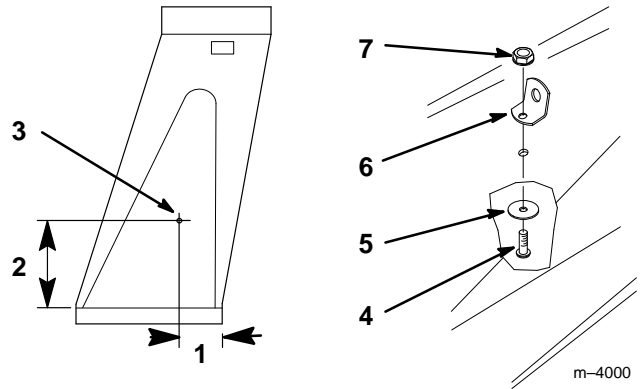

Figure 8
- Measure for hole location as shown (Fig. 8).
- Mark and drill a 9/32" (7.5 mm) hole in the chute, as shown, for the short spring bracket (Fig. 8).
- Place the 1/4" (6 mm) washer and 1/4-20 x 3/4" (19 mm) bolt through the hole from the inside of the chute and secure the short spring bracket to the bolt with a 1/4-20 locknut (Fig. 8).